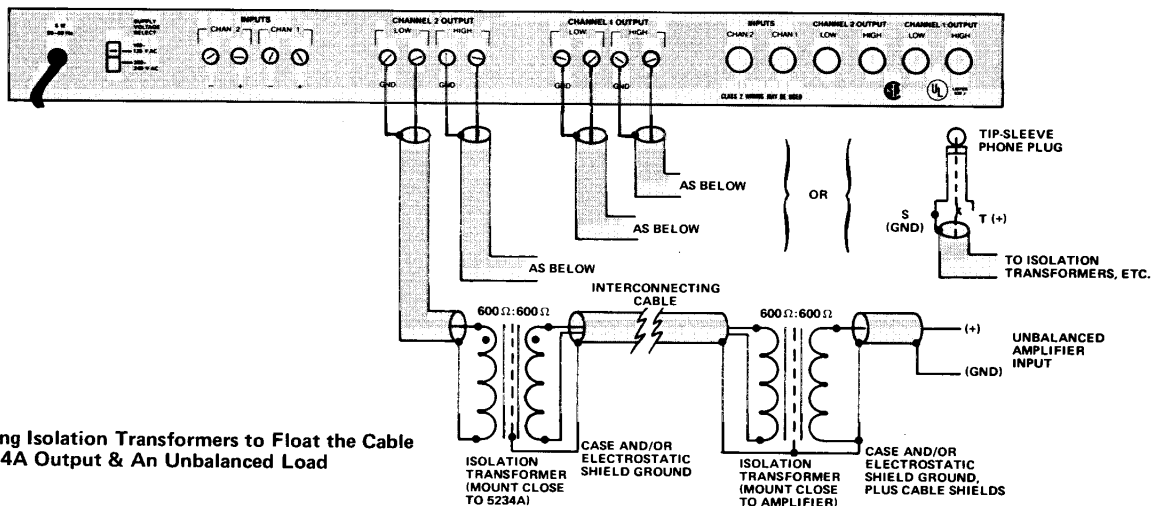

Figure 9 – Using Isolation Transformers to Float the Cable Between a 5234A Output & An Unbalanced Load
2. Figures 9, 10 & 11 illustrate balanced or floating input and output connections. Figures 18 through 20 illustrate wiring for typical installations.